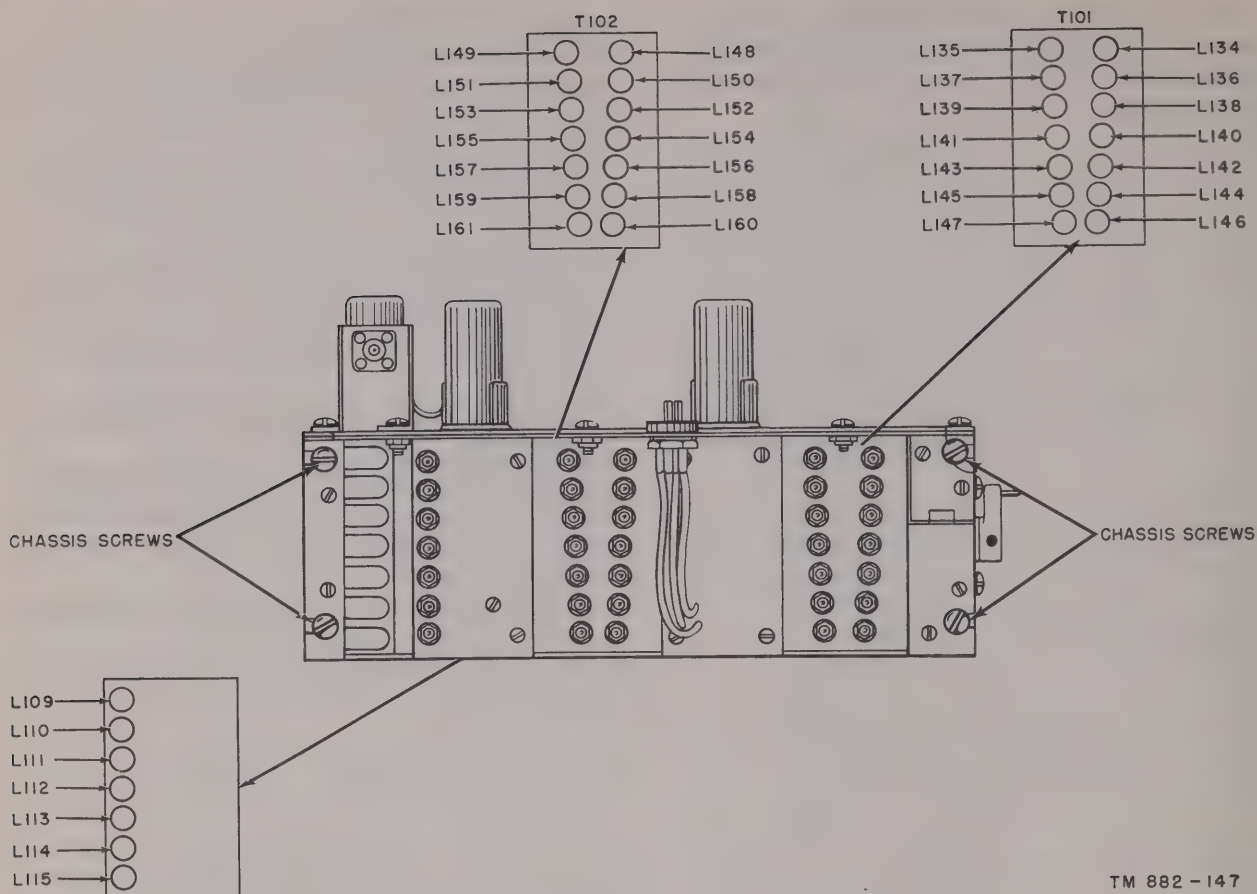

Figure 118. Rf unit, if section alinement points.
b. Adjust L115 (fig. 118) for a maximum voltage reading. Use alinement tool H379 (fig. 97). Set the BAND SELECTOR to bands 2 through 7; adjust coils L114 through L109 respectively (fig. 118). A minimum injection voltage of .4 volt must be maintained at the cathode (pin 7) of the second mixer (V112) for all bands.
b. Adjust L146, L147, L160, and L161 (fig. 118) for maximum output.